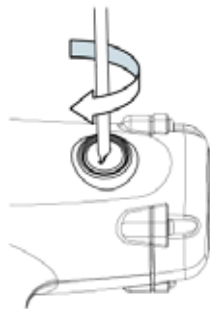

Fig. 6
- Lock the carbon brush panel back clockwise by using slated bit. (Fig. 6).